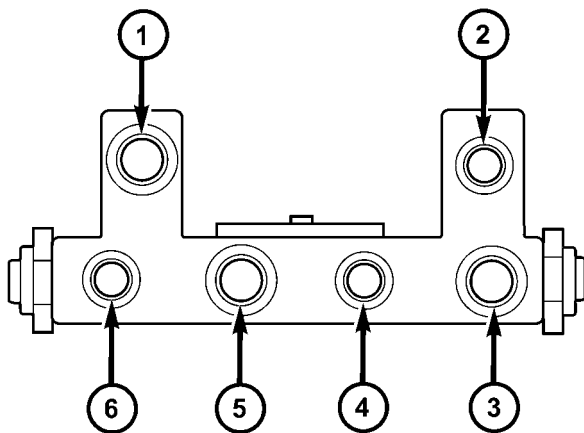

Fig. 83 Junction Block Fitting Identification
(9) Lift the transmission control module (with speed control servo attached) from its mount leaving its wiring harness attached. Move it off to the side toward the engine making sure not to strain the wires and speed control servo cable.
(10) Clean any debris away from the fittings on top of the junction block.
(11) Using the following figure, remove the chassis brake tube leading to either the left rear or right rear brake at the junction block (Fig. 83).